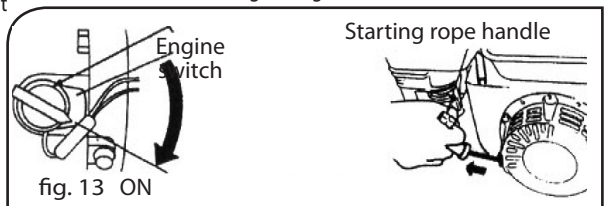

fig. 13 ON
8. Start the engine (Fig. 13).